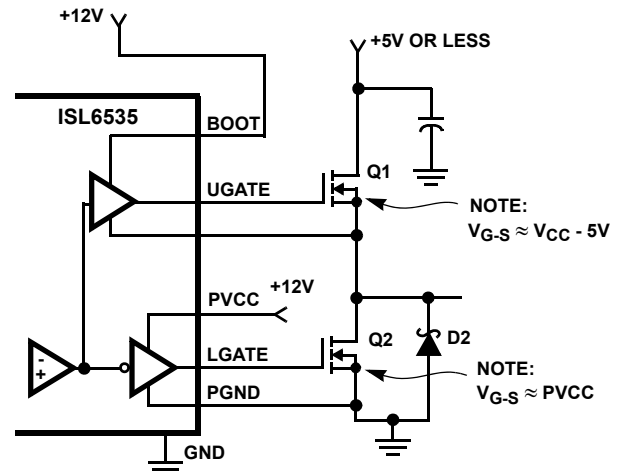

FIGURE 10. UPPER GATE DRIVE - DIRECT  $V_{CC}$  DRIVE OPTION
**Figure 10** shows the upper gate drive supplied by a direct connection to +12V. This option should only be used in converter systems where the main input voltage is +5 VDC or less. The peak upper gate-to-source voltage is approximately +12V less the input supply. For +5V main power and +12V DC for the bias, the gate-to-source voltage of  $Q_1$  is 7V. A logic-level MOSFET is a good choice for  $Q_1$  and a logic-level MOSFET can be used for  $Q_2$  if its absolute gate-to-source voltage rating exceeds the maximum voltage applied to PVCC. This method reduces the number of required external components, but does not provide for immunity to phase node ringing during turn on and may result in lower system efficiency.